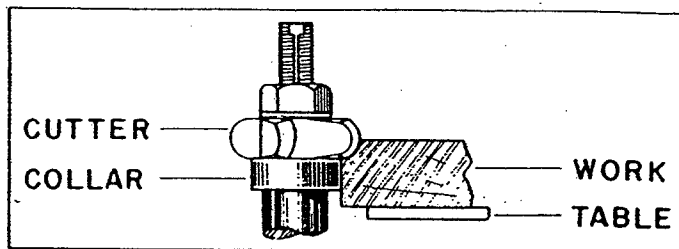

Fig. 31
2. When the collar is used below the cutter, as shown in Fig. 31, the progress of the cut can be observed at all times. However, any accidental lifting of the work will gouge the wood and ruin the workpiece.